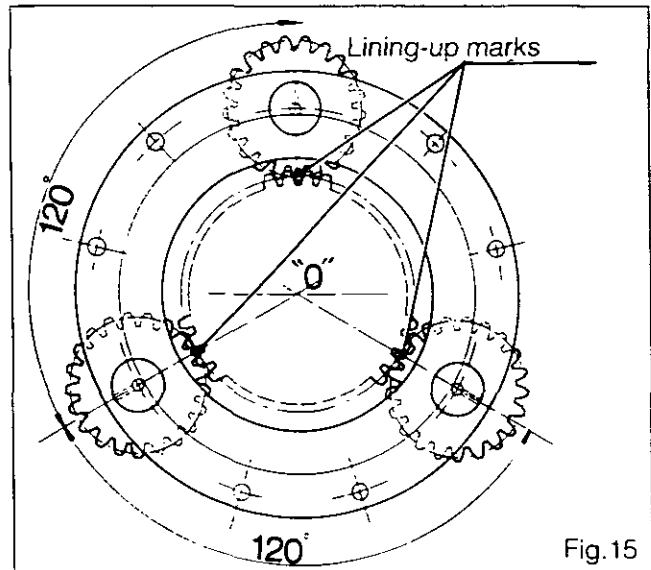

Fig.15
**N.B.:** The marks (punch marks) on the three planetary gears must line up with the centre on line spaced 120° apart, as shown in Fig.15.